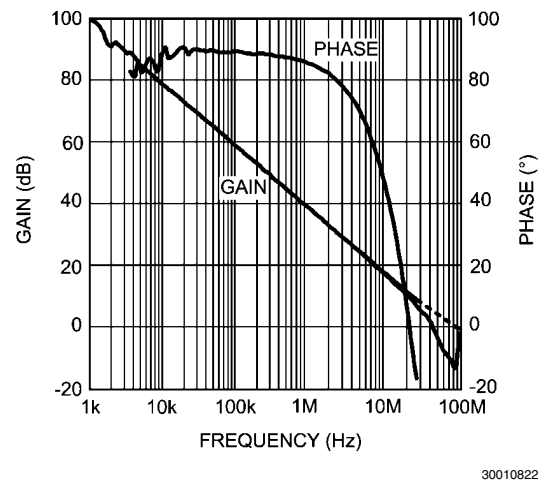
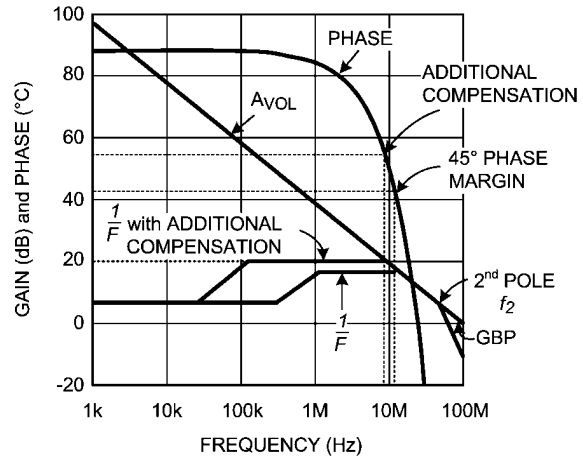

FIGURE 1. LMP7717  $A_{VOL}$  vs. Frequency
FIGURE 5. LMP7717/LMP7718 Simplified Bode Plot
Figure 1 shows the much larger 88 MHz bandwidth of the LMP7717 as compared to the 17 MHz bandwidth of the LMP7715 shown in Figure 2. The decompensated LMP7717 has five times the bandwidth of the LMP7715.
*Figure 5* is the same plot as *Figure 1*, but the  $A_{VOL}$  and phase curves have been redrawn as smooth lines to more readily show the concepts covered, and to clearly show the key parameters used in the calculations for lead-lag compensation.